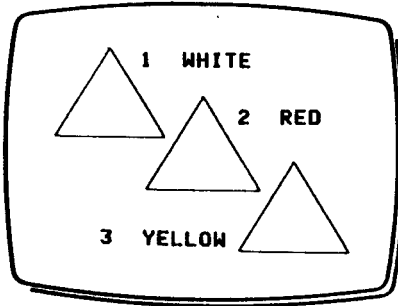

Fig 2
- 2 **Draw a triangle with WHITE lines, (1) in Fig 2.**